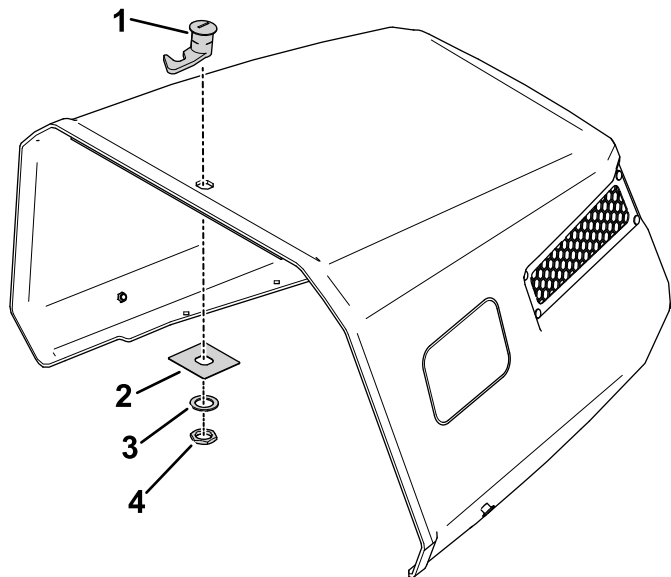

Figure 52
3. Use the latch jam nut, spacer, and latch plate to secure the latch to the hood (Figure 52).